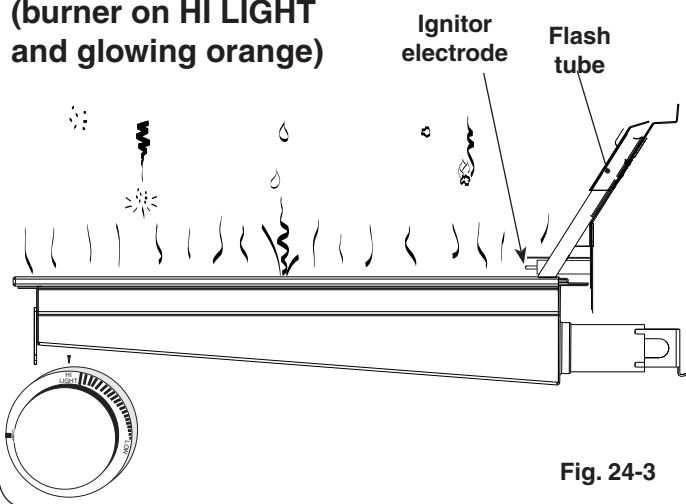

Fig. 24-3
- **DO NOT** place food on the cooking grid until the IR burner glows orange (Fig. 24-3). Drippings are heated and evaporate instead of sticking to and impairing burner function.